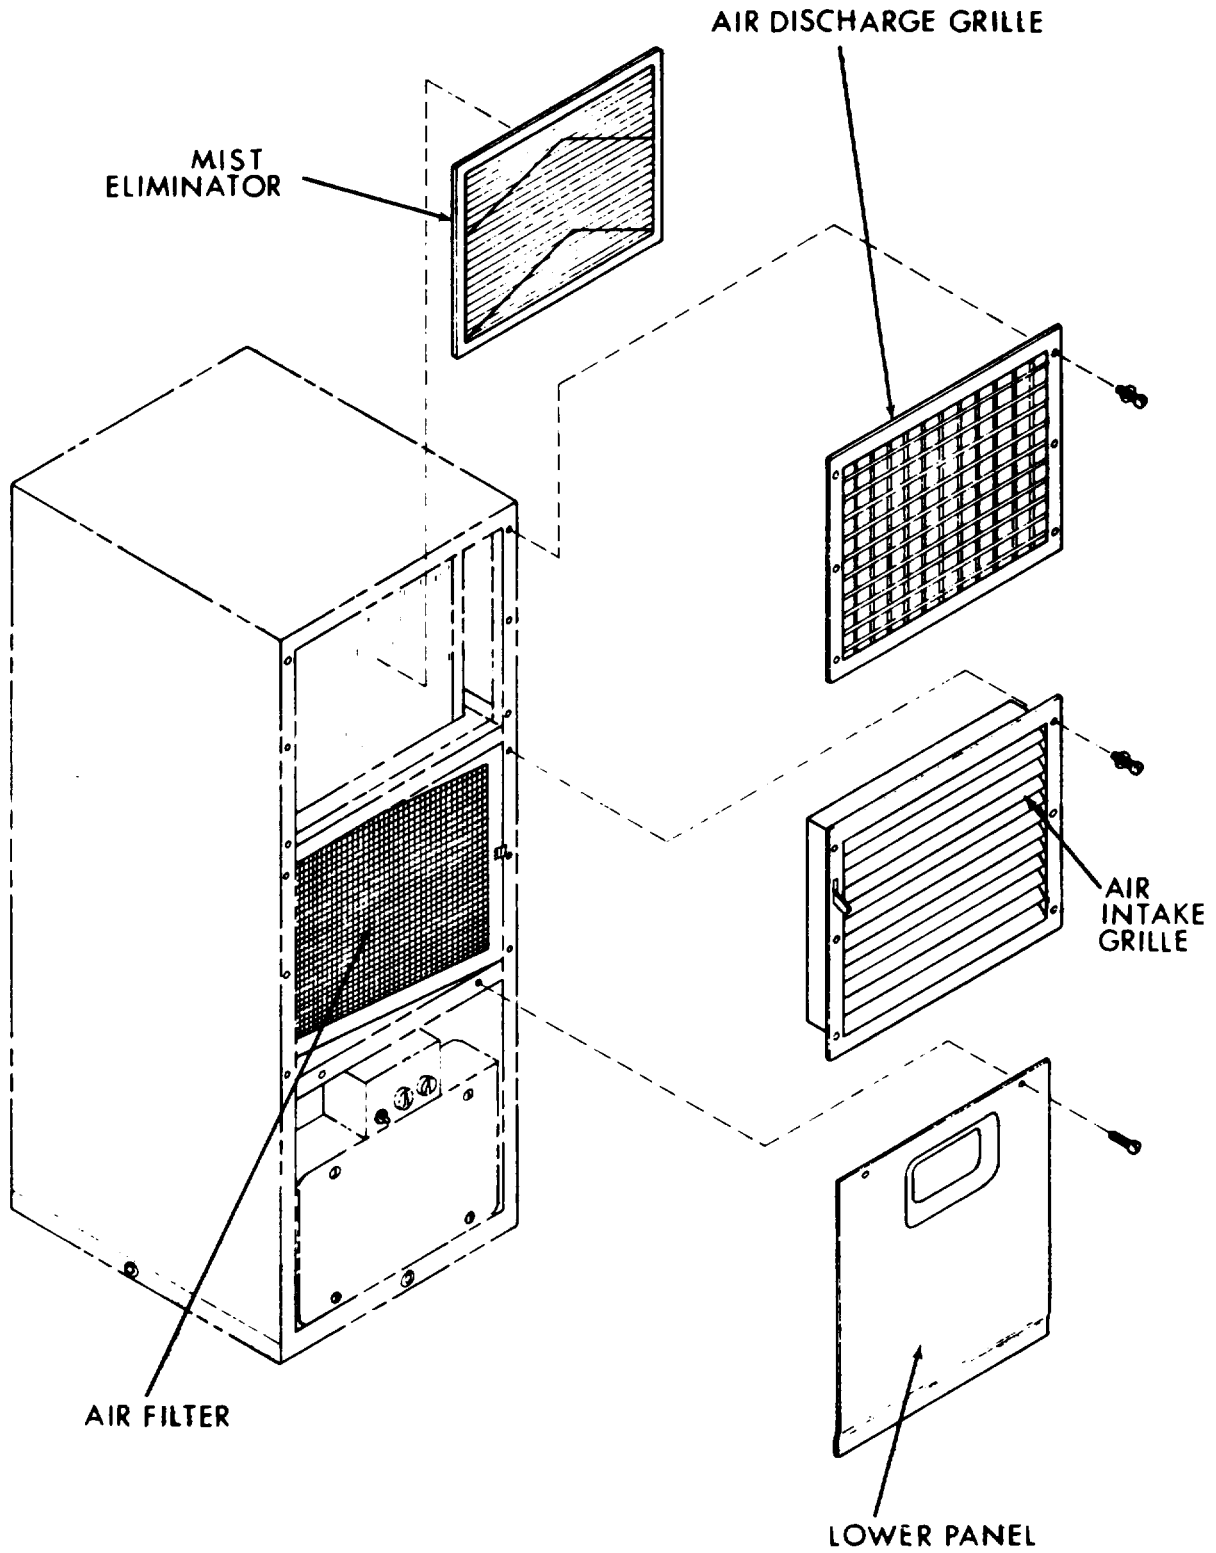

Figure 4-5. Panels, Louvers and Filters
4.9. Air Intake and Discharge Grilles (See figure 4-5).
4.10. Lower Panel (See figure 4-5).
4.16. Air Filter (See figure 4-5).